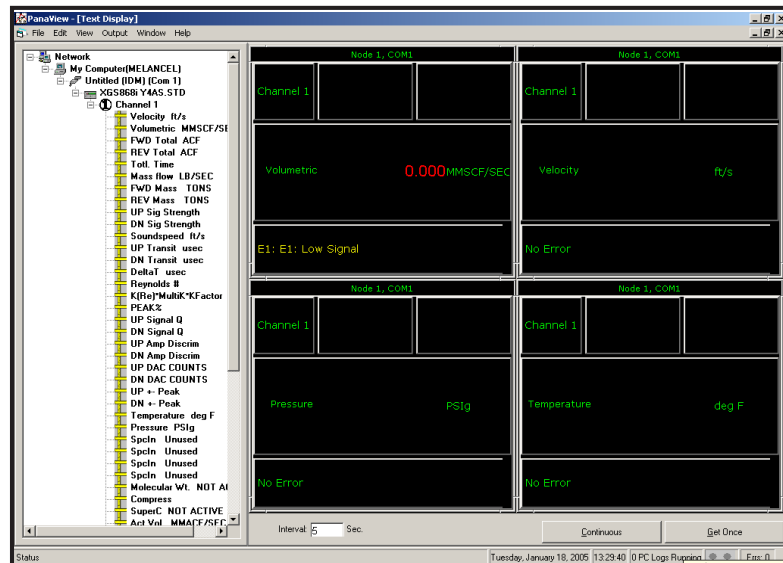

Figure 20: Multiple Text Screens in the *Text Display* Window
2. Repeat Step 1 for any desired additional process parameters, by double clicking on them in the PanaView network tree. PanaView automatically tiles the multiple text screens in the right pane of the *Text Display* window, as shown in Figure 20.